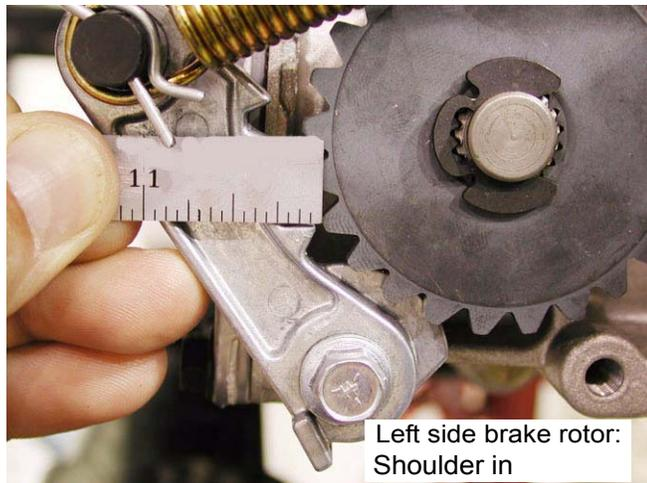

**Figure 8.9**
- 8.9. Prior to adjustment, check the brake pawls and rotors. See Figure 8.9.